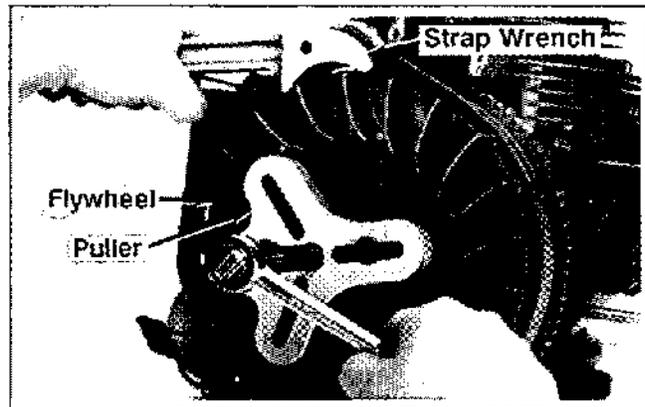

Figure 9-30. Removing Flywheel With A Puller.
3. Remove the flywheel from the crankshaft using a puller. See Figure 9-30.